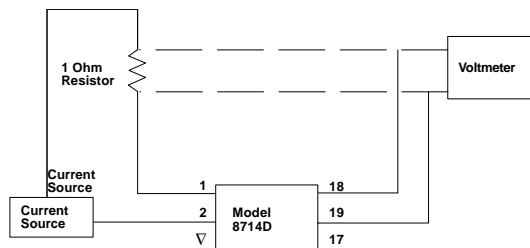

FIGURE 3. Set-up Model 8714D and the transmitter as shown.
1. Set-up your equipment according to Figure 3.